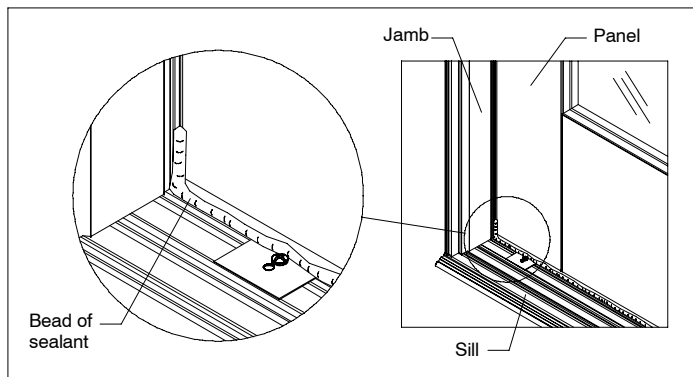

Figure 7
- Apply silicone sealant along the bottom of the panel and sill joint. See figure 7.